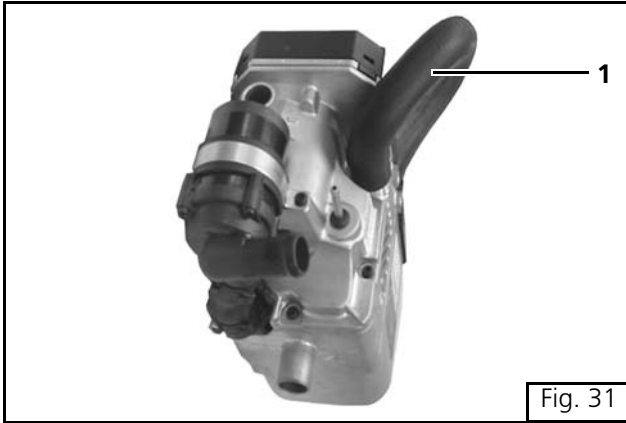

Fig. 31
- (3) Connect to heater outlet. Also refer to fig. 31.
- (4) Connect to vehicles heater core. (trim to length)